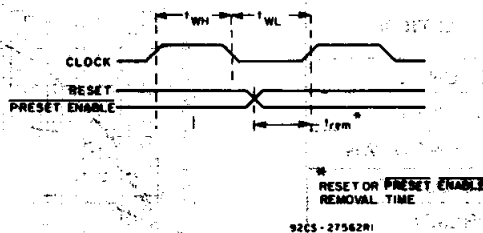

Fig. 10 - Timing diagram defining t_{rem}
* The time required for RESET or PRESET ENABLE control to be removed before clocking (see timing diagram, Fig. 10).